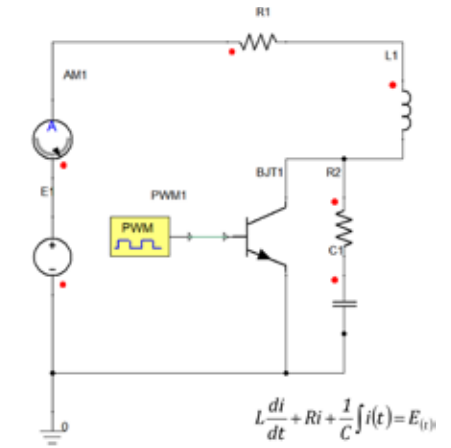

Fig. 3. The electric drive circuit of a solenoid valve.
accurately. The magnetic simulation model generated is added as a co-simulation block within the Ansys Simplorer system simulation program, as shown in Fig. 3. This method makes it possible to predict magnetic forces with great accuracy because the magnetic FEM simulation can be conducted concurrently with the system simulation.
The drive circuit of the solenoid valve is simply composed of a power transistor (TR) and a surge protection circuit. It can be simplified as shown in Fig. 3, and the system simulation model can consist of a single Bipolar Junction Transistor (BJT), a resistor-inductor (RL) surge protection circuit, and a pulse-width modulation (PWM) block for on/off control.